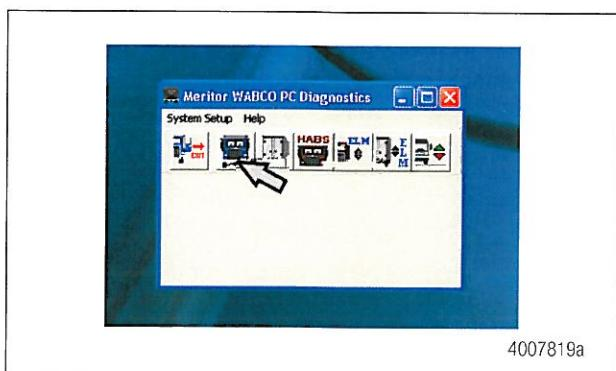

Figure 9
- From the message box, click on the Pneumatic ABS button. Figure 9.